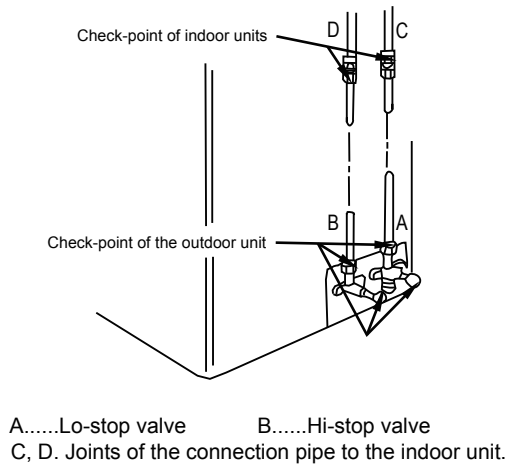

Fig.7-6
- Check all the joints with the leak detector or soapy water. (Refer to Fig.7-6)